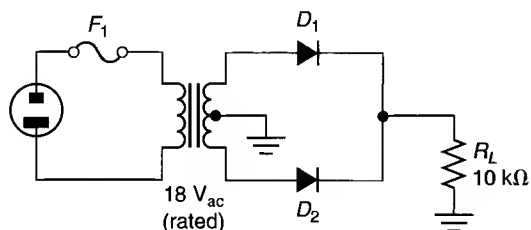

FIGURE 3.55
19. Determine the values of $V_{L(pk)}$, V_{ave} , and I_{ave} for the circuit shown in Figure 3.55.
22. Determine the PIV of the circuit shown in Figure 3.55.
25. Assume that the diodes in Figure 3.55 are both reversed. Determine the new values of $V_{L(pk)}$, V_{ave} , and I_{ave} for the circuit.